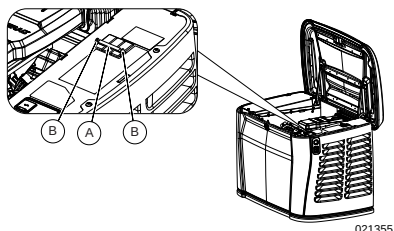

Figure 3-4. Main Line Circuit Breaker (MLCB)
See Figure 3-4. This is a 3-pole main line circuit breaker (MLCB) (generator disconnect) (A) rated according to relevant specifications.